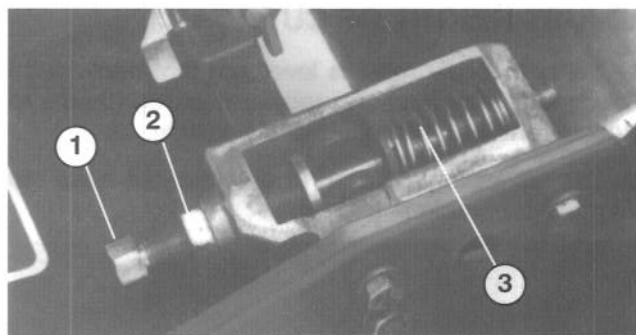
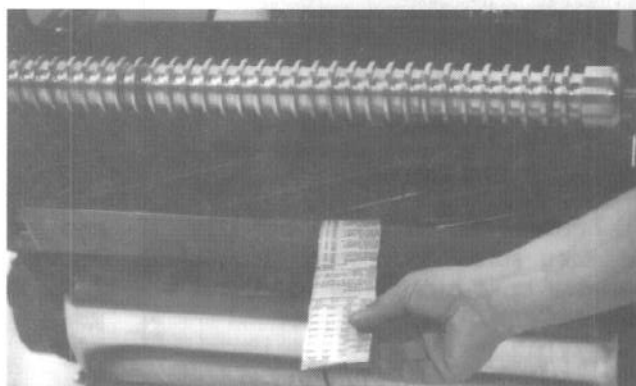

Figure 7
Figure 8
1. Position machine on a flat, level work surface. Make sure reel contact is removed by loosening jam nuts on bedknife adjusting screws and rotating adjusting screws counterclockwise (Fig. 7).
3. On one end of front side of reel, insert a long strip of newspaper between reel and bedknife (Fig. 8). While slowly rotating reel forward, tighten bedknife adjusting screw, (on same end of reel, one flat at a time, until paper is pinched lightly, when inserted from the front, parallel to the bedknife, which results in a slight drag when paper is pulled (Fig. 7).
5. After adjustment is accomplished, check to see if reel can pinch paper when inserted from the front and cut paper when inserted at a right angle to the bedknife (Fig. 8). It should be possible to cut paper with minimum contact between the bedknife and the reel blades. Should excessive reel drag be evident (more than 7 inch pounds) it will be either necessary to backlap or re-grind the cutting unit to achieve the sharp edges needed for precision cutting (see Toro reel sharpening manual).
WARNING: Use caution if removing bedbar because adjusting screw springs (Fig. 7) are under tension and could release suddenly.